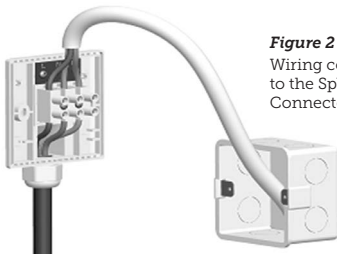

Figure 2 - Wiring connections to the Splash Proof Connector.
3. Connect Live (brown/red) wire to L point of terminal block (Fig. 2)
Connect Neutral (blue/black) wire to N point of terminal block (Fig. 2)
Connect Earth (green/yellow) wire to ⊕ point of terminal block (Fig. 2)